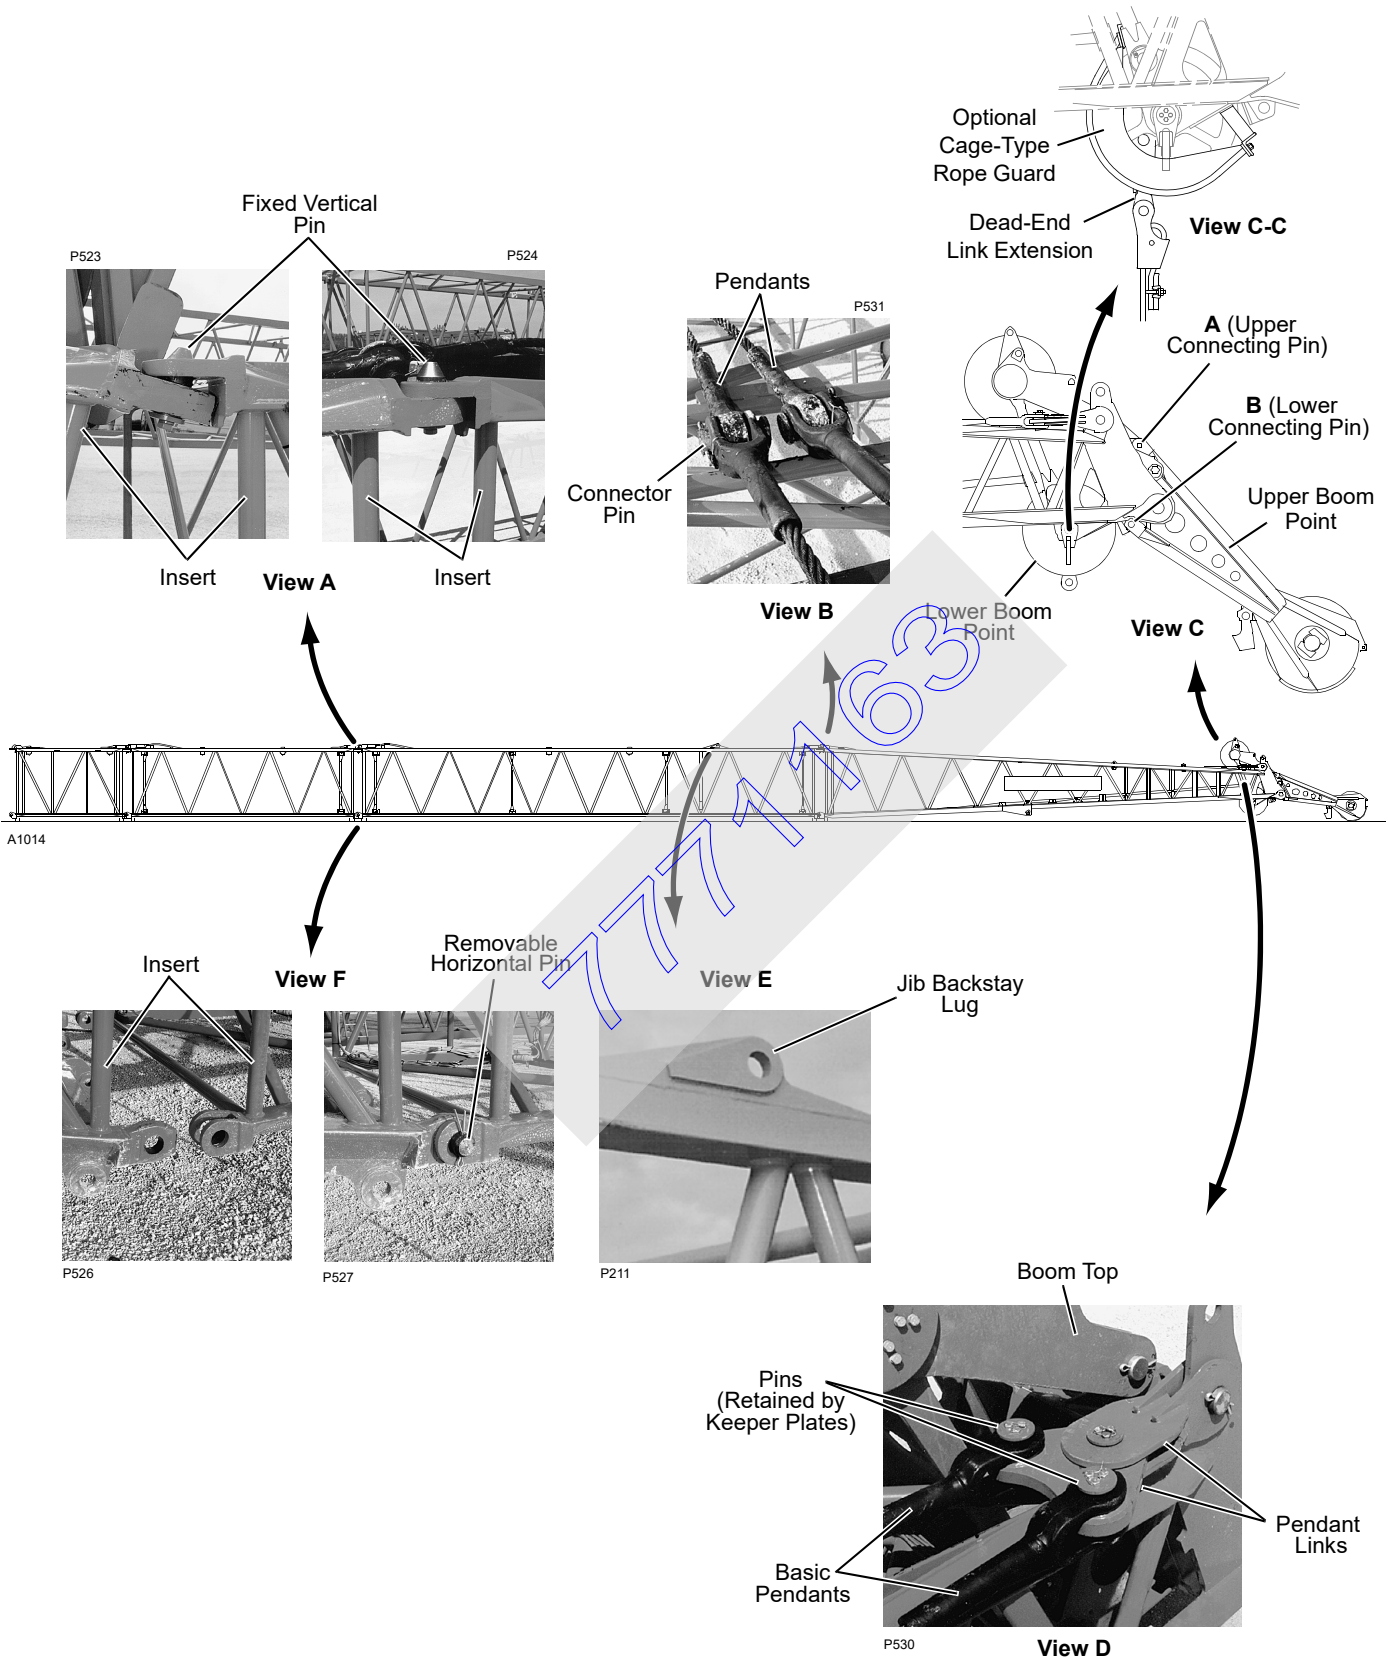

FIGURE 4-28
- The top connectors are joined by fixed vertical pins that hook into holes in the adjacent section (Figure 4-28, View A).
- The bottom connectors are joined by removable horizontal pins (Figure 4-28, View F).
- b. Lift next insert into position and engage top connector holes with fixed vertical pins as shown in Figure 4-28, View A.
- c. Lower insert until bottom connector holes are aligned and install removable horizontal pins as shown in Figure 4-28, View F.
1. Pin basic pendants to pendant links (Figure 4-28, View D).
3. Pin remaining pendants in proper sequence to basic pendants (Figure 4-28, View B and Figure 4-31). *Install pendant connecting pins so heads face each other.*
1. Lift upper boom point into position at end of boom top (Figure 4-28).
2. Align upper connecting holes at A and install connecting pins and snap pins. Do not pin lower holes. This will allow upper boom point to rest on blocking (Figure 4-28, View C).
3. Install lower connecting pins and snap pins at holes B after upper boom point is clear of ground (Figure 4-28, View C).
Manitowoc recommends installation of the cage-type rope guard (Figure 4-28, View C-C) for all duty-cycle operations (clam, drag, pile driving). The rope guard will protect the sheaves from side-load damage.